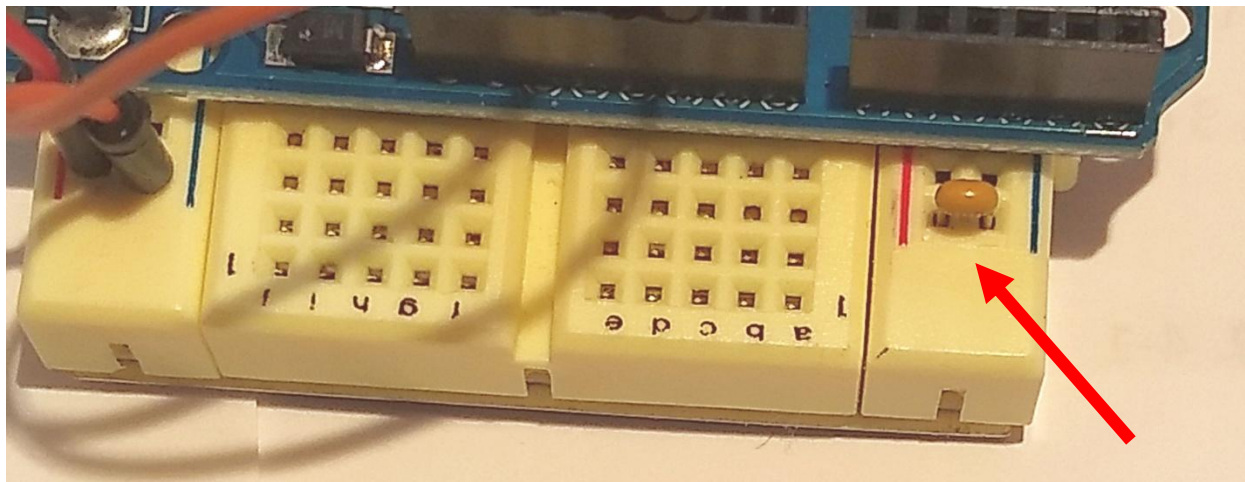

Figure 10. Capacitor connected to blue and red rails.
1. Attach your Arduino to the breadboard “the long way” using the **rubber band** provided in your kit covering holes 5 through 24, with the digital ports facing the high numbers on the breadboard, as seen in Figure 10.
2. Install the capacitor on the board so it connects the blue rail to the red rail to protect the microcontroller. See *Figure 10*.